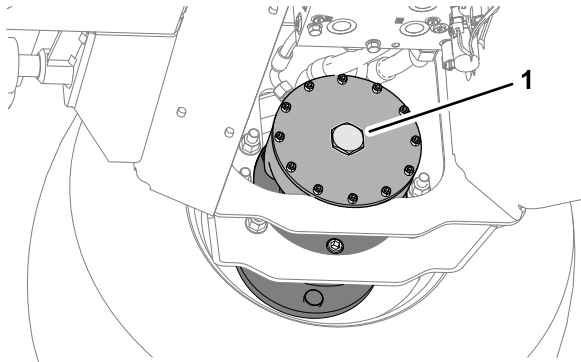

Figure 41
5. At the right, front wheel motor brake assembly remove the hex plug (Figure 41).